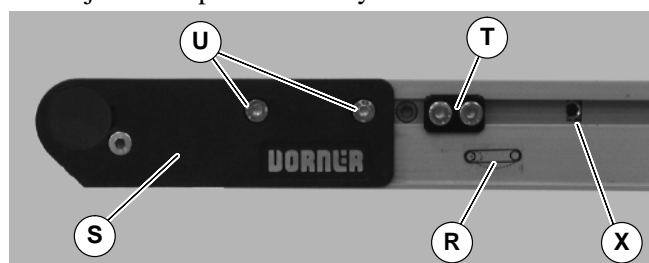

Figure 25
1. On tension end of the conveyor, identified with a  label (R of Figure 25), adjust head plate assembly (S): On both sides of conveyor, loosen fastening screws (U) and rotate pinion gear (X) to adjust head plate assembly.
3. After adjusting proper tensioning, tighten fastening screws (U of Figure 25) on both sides of conveyor to 7 Nm.
4. If equipped with cam tracking assemblies (T of Figure 25), position against head plates and adjust belt tracking. Refer to “Conveyor Belt Tracking” on page 12.